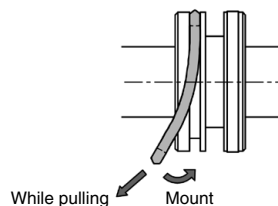

Fig. 5 Installation of the piston seal
③7 Rod seal A: Mount the seal in the correct direction.
③9 Piston seal: Mount the seal while stretching it as Fig. 5.